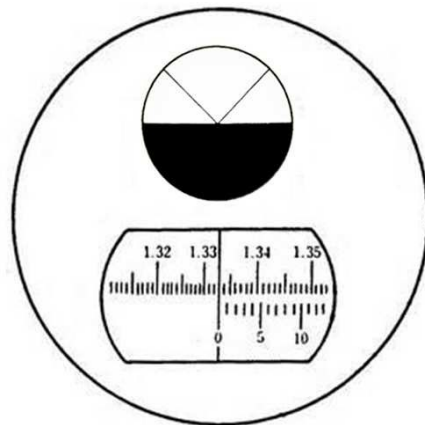

Figure 4.3. View through the eyepiece of a correctly adjusted refractometer
You need not be concerned with the details of how the optical system of the refractometer works. A thin film of sample is introduced between two prisms using an eyedropper, the sample is illuminated, and the experimenter looks into an eyepiece. The illuminating lamp is adjusted until the best contrast between the light and dark halves of the visual field is obtained. The hand-wheel [8] on the side of the instrument is then rotated until the dividing line between the light and dark halves of the visual field coincides with the centre of the crosshairs (see Figure 4.3). There are two scales shown. The bottom is the Brix scale (% dissolved solids) and the top is refractive index (n_D).
6. When the light/dark boundary in the upper window is congruent with the crosshairs, the value can be read off in the upper scale of the lower window (Figure 4.3). Consult your instructor if necessary.